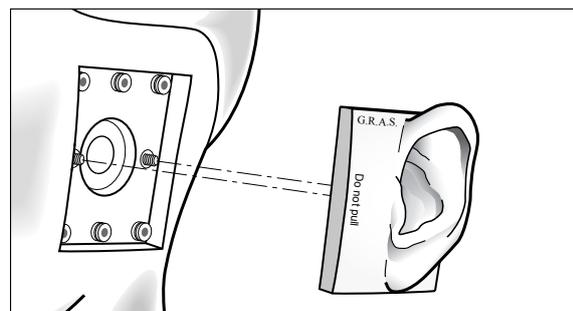

Fig. 44. Studs and screws for the anthropometric pinna.
6. Mount the anthropometric pinna by pushing it over the 6 studs. (Fig. 44).